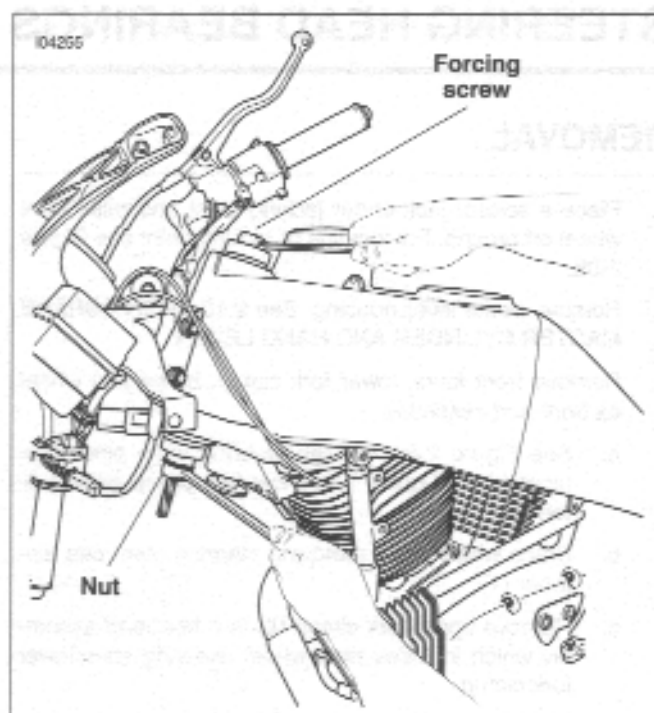

Figure 2-74. Install Bearings
7. See Figure 2-74. Hold the forcing screw while tightening the nut to draw the bearings into the steering head. Continue tightening until both bearings are fully seated.